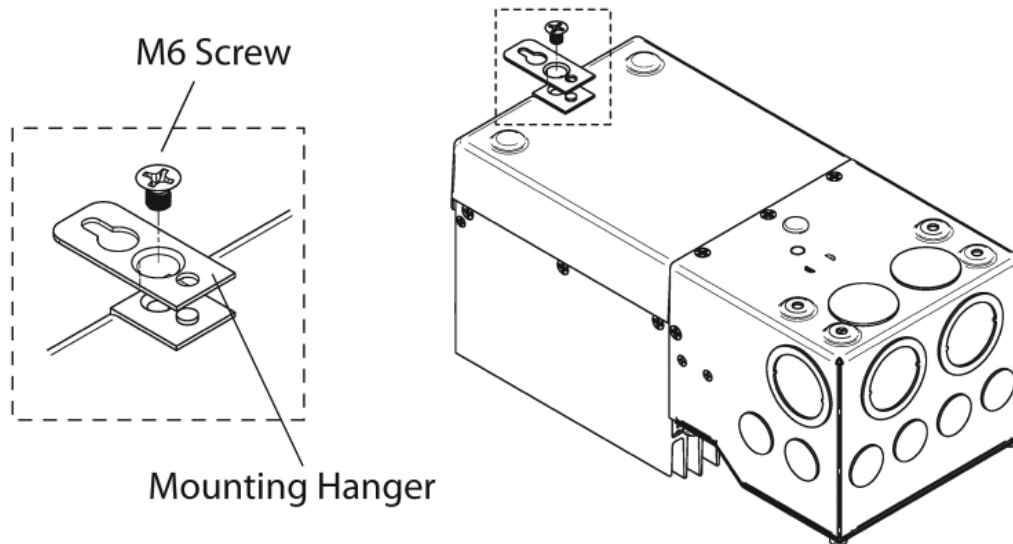

Figure 3-2. Attaching the mounting hanger
1. Attach the mounting hanger to the bottom of the TriStar MPPT with the M6 screw provided as shown in figure 3-2.